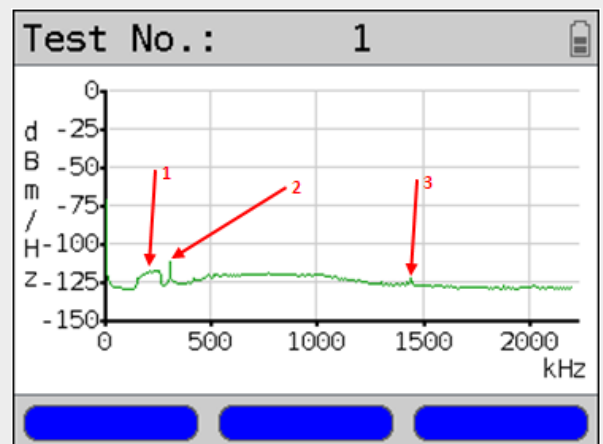

Figure 7: DMT analysis results with crosstalk (1) and interference sources (2, 3).
If the servicing technician suspects that there is a fault but he has no valid proof to date, he should analyse the transmit power on the line via tone (PSD - Power Spectral Density) and the DMT tones. The result of this test is measurement of the signal or noise on the line and more precise identification of crosstalk and disturbance sources (see figure 7). In the example illustrated for instance, it would not have been possible to detect the very weak interference source at 1500 kHz (3) before DMT analysis. The crosstalk (1) and the interference source (2) at approx. 300 kHz can now be seen far more clearly.